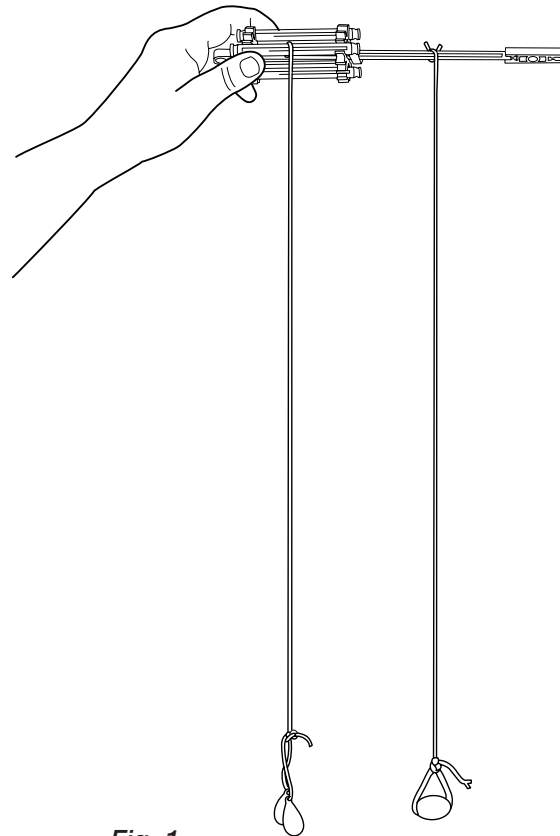

Fig. 1
2. Cut two 50 cm lengths of string. Tape one end of one string to the handle of the screwdriver. Tape one end of the other string to the axle of the screwdriver. Tie one weight to the end of each string. (*See Fig. 1*)